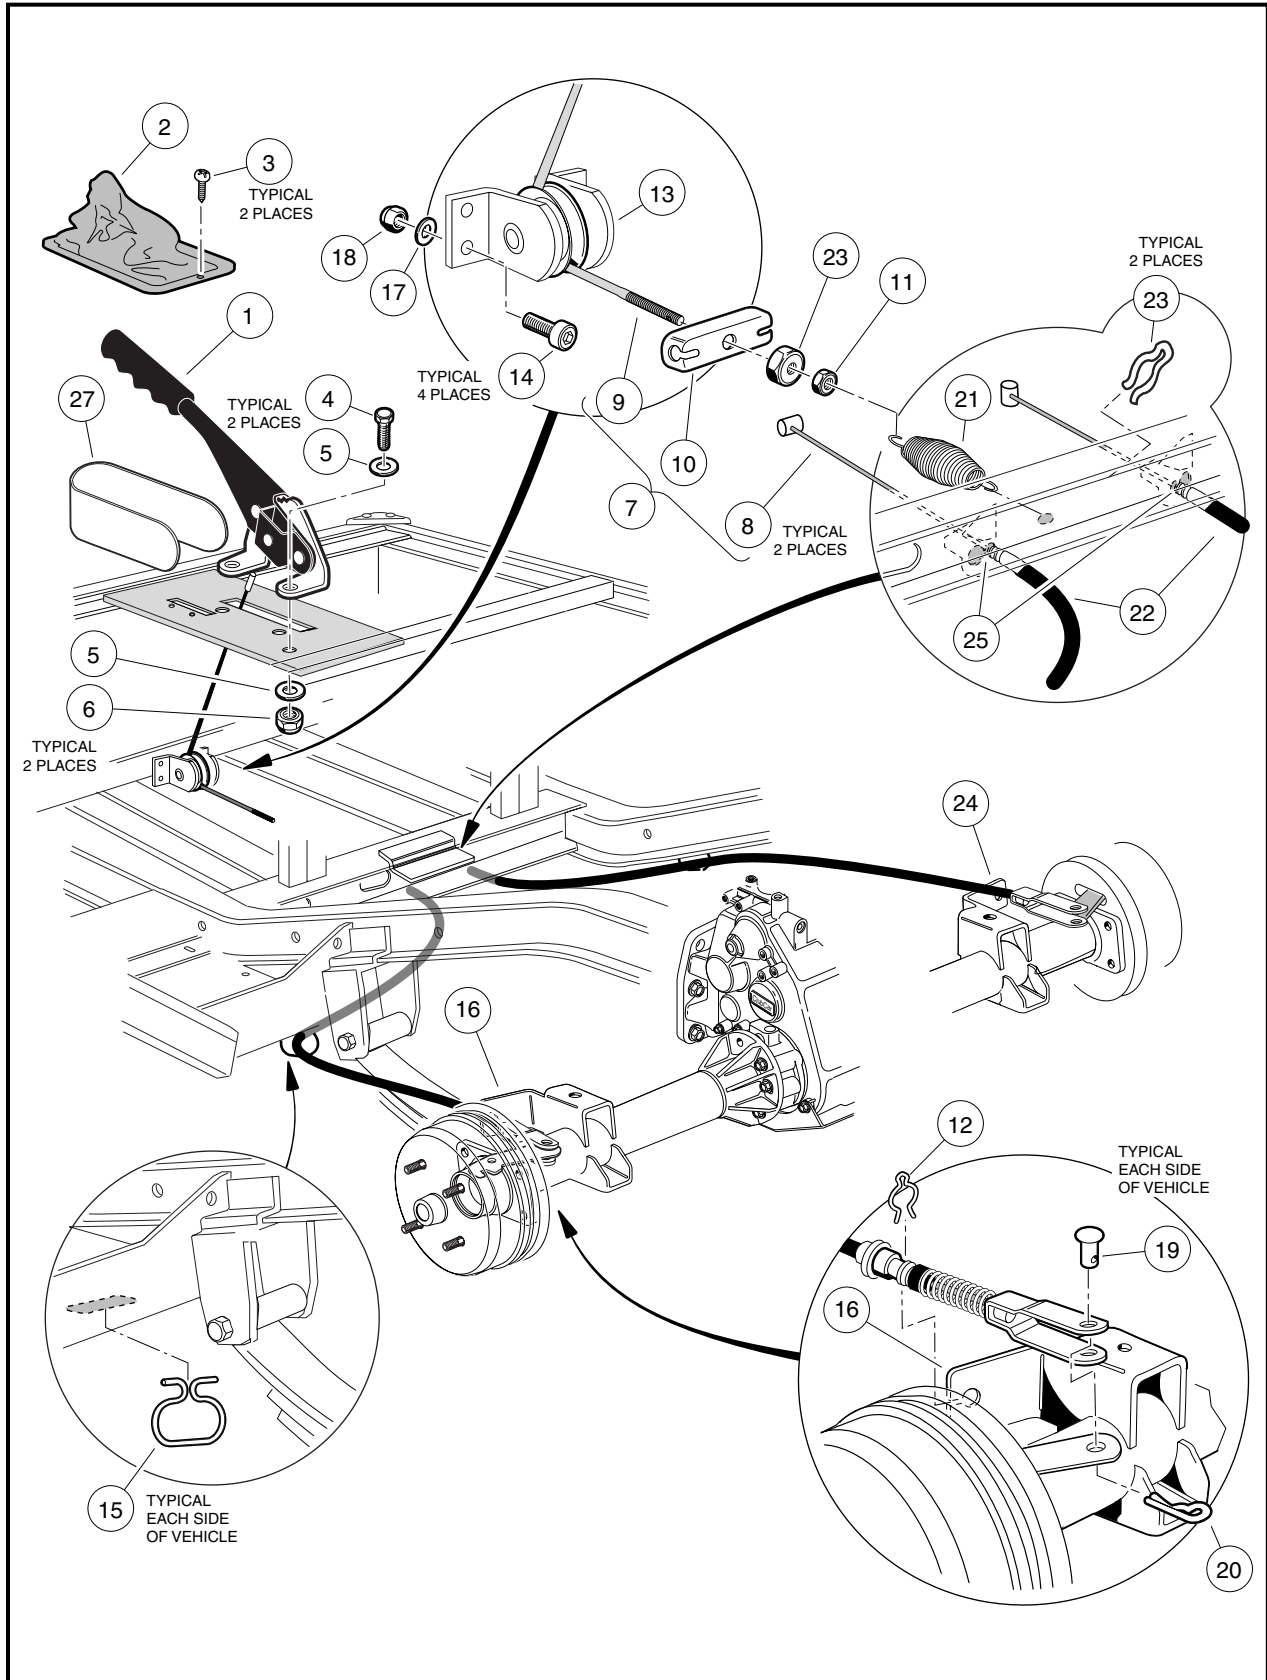

Figure 6-27 Park Brake System
2. Remove the two screws (3) that secure the park brake boot (2) to the seat support (**Figure 6-27, Page 6-37**).
3. Slide the boot (2) off of the park brake handle (1).
4. Remove the boot shield (27) from the park brake handle.
5. Remove the equalizer spring (21) from the equalizer cable (9).
6. Remove the equalizer jam nut (11) and conical nut (23) from the cable end (9).
7. Remove the end of the park brake cable from handle (1) by pushing the equalizer cable in an upward direction and pulling the cable end toward the passenger side of the vehicle.
2. Remove the four #10-24 x 3/4-inch socket-head screws (14), lock nuts (18) and washers (17) from frame and remove the assembly (**Figure 6-27, Page 6-37**).
1. Loosen the equalizer jam nut (11) and the conical nut (23) to provide slack in the wheel brake cables (**Figure 6-27, Page 6-37**).
3. Remove the cable clip (23) from a wheel brake cable (22) at the vehicle frame (25) (**Figure 6-27, Page 6-37**).
4. Remove a park brake cable clip (12), hair spring cotter pin (20) and clevis pin (19).
6. Slide the cable through the frame hanger (15) and remove the cable from the vehicle.
1. Align the equalizer cable pulley assembly (13) with the mounting holes in the frame (**Figure 6-27, Page 6-37**).
2. Install the four 10-24 x 3/4-inch socket-head screws (14), flat washers (17) and lock nuts (18) and tighten to 54 in-lb (6.1 N·m).
1. Thread the equalizer cable (9) up between the pulley and frame, through the top seat support slot and hook the end of the cable into the handle (1) clevis slot from the passenger side (**Figure 6-27, Page 6-37**).
2. Assemble the equalizer bracket (10) onto the threaded end of the equalizer cable (9).
3. Attach the conical nut (23) and equalizer jam nut (11) to the threaded end of the equalizer cable.
4. Attach the equalizer spring (21) from the equalizer cable to the frame.
5. Slide the boot shield (27) around the park brake handle.
6. Slide the boot (2) over the handle and down around the boot shield and onto the seat support.
7. Attach the boot (2) using two 5/16-18 phillips head screws (3).
1. Slide a cable (22) through the frame hanger (15) (**Figure 6-27, Page 6-37**).
2. Attach the cable clevis and wheel brake lever using the clevis pin (19) and hair spring cotter pin (20).
3. Attach the cable (22) to the cable support bracket (16 or 24), using a wire clip (12).
4. Attach the opposite end of cable (22) through a frame bracket notch (25) and secure with a wire clip (23).
5. Pull the end of the brake cable (8) up and into a keyhole opening in the park brake equalizer bracket (10).
2. Remove the two bolts (4), four washers (5) and two lock nuts (6) from the park brake handle (**Figure 6-27, Page 6-37**).
3. Remove the park brake handle (1) from the seat support.
1. Attach the handle (1) to the seat support using two 3/8-16 x 1-1/4-inch hex-head bolts (4), 3/8 flat washers (5) and 3/8-16 lock nuts (6) (**Figure 6-27, Page 6-37**). Tighten the nuts to 23 ft-lb (31.4 N·m).
3. Loosen the equalizer jam nut (11) and the conical nut (23) to provide slack in the wheel brake cables (**Figure 6-27, Page 6-37**).
5. With the park brake released (down), tighten the conical nut (23) until significant resistance is observed in the equalizer cable in order to fully lock the brakes (**Figure 6-27, Page 6-37**).